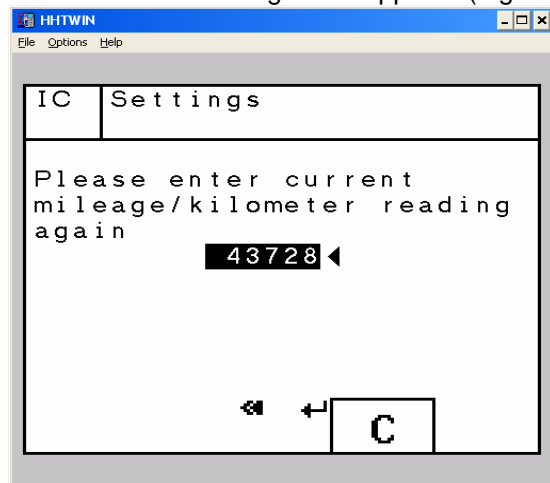

Figure 2 P-B-54.30/150
5. When the following menu appears (Figure 2), enter the total distance in **miles**.